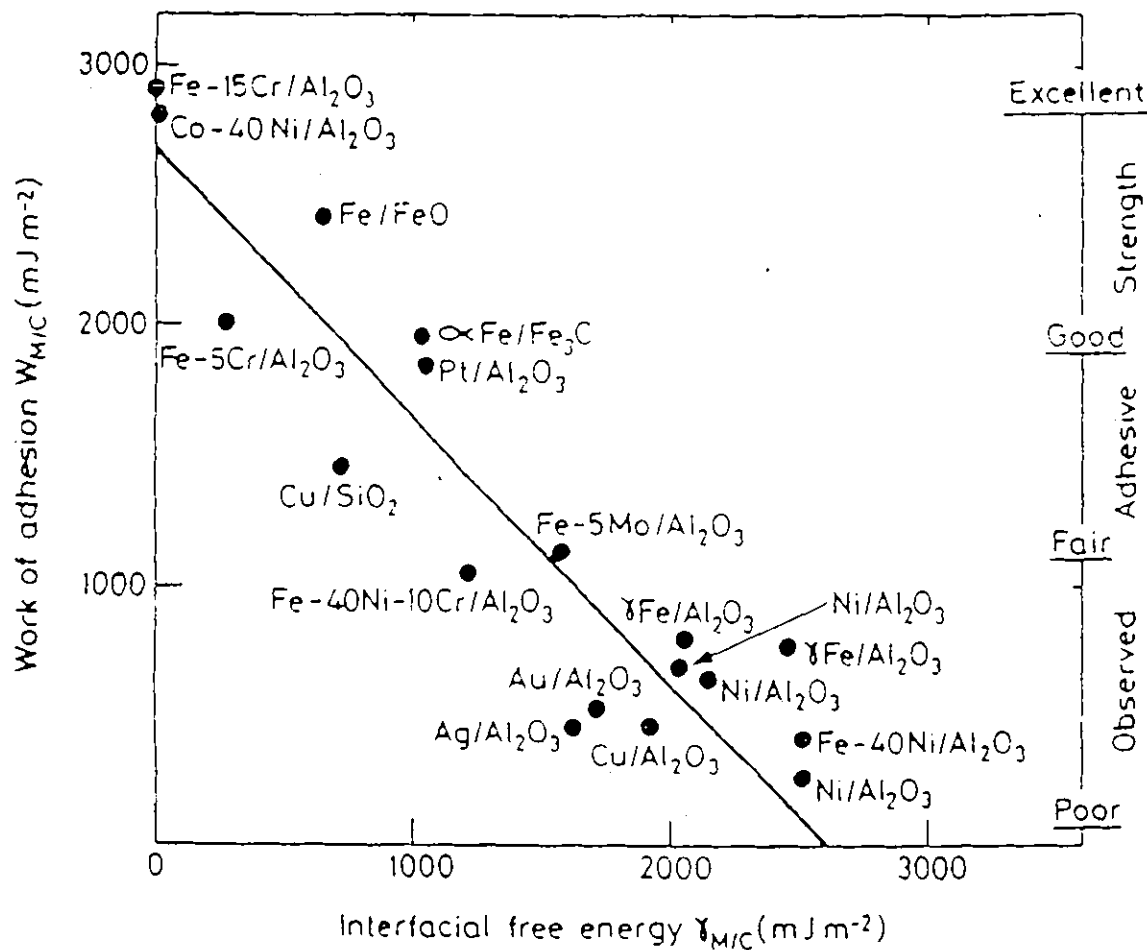

Figure 1
- i) Figure 1 shows the relation between the work of adhesion and the interfacial free energy γ_{MC} . Carefully explain why: